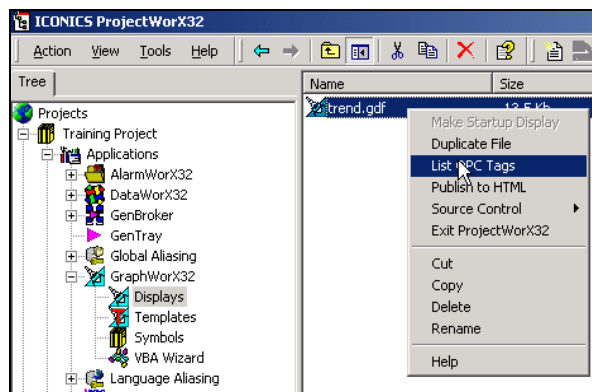

Figure 4.14
1. For example, right-click a GraphWorX32 display file in the ProjectWorX32 Console and select **List OPC Tags** from the pop-up menu, as shown in **Figure 4.14**.